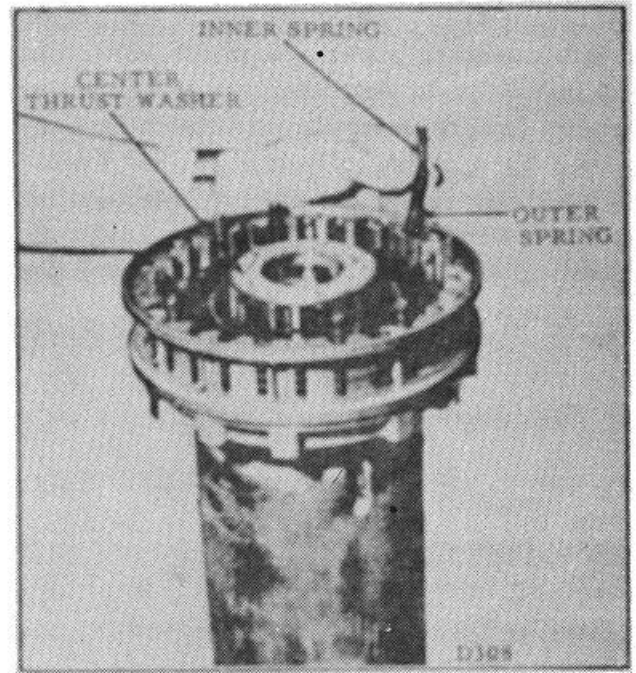

Figure 26.
5. Place the center thrust washer on the forward clutch hub, making sure the teeth on the back of the washer engage the teeth on the gear hub. Slide the inner and outer clutch springs into the empty tooth spaces of the clutch ring and onto the tangs of the first separator plate. (Fig. 26)